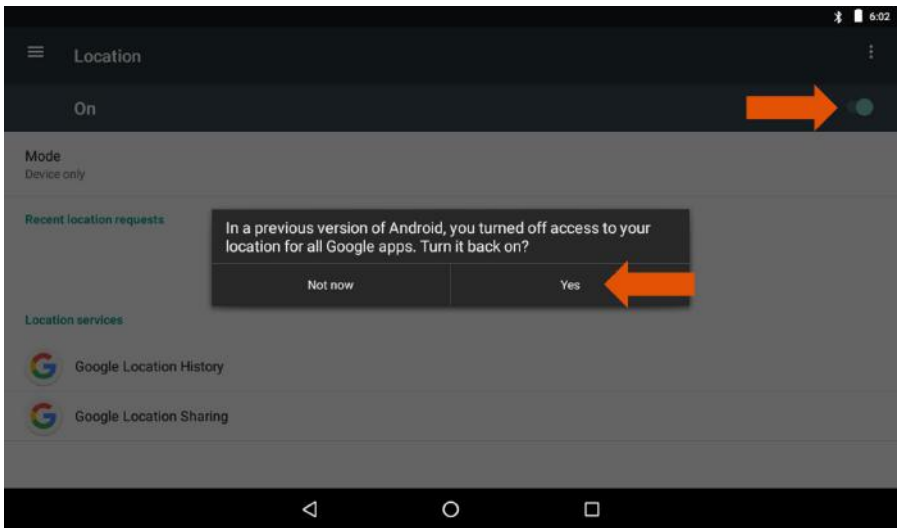

Figure 11: Checking the tablet's Location and Location History
2. Go to the tablet's Settings (figure 7) and make sure that Location is turned on and check the Google Location History. If a previous version of Android has turned off access to your locations for apps, click Yes to turn it back on (figure 11).